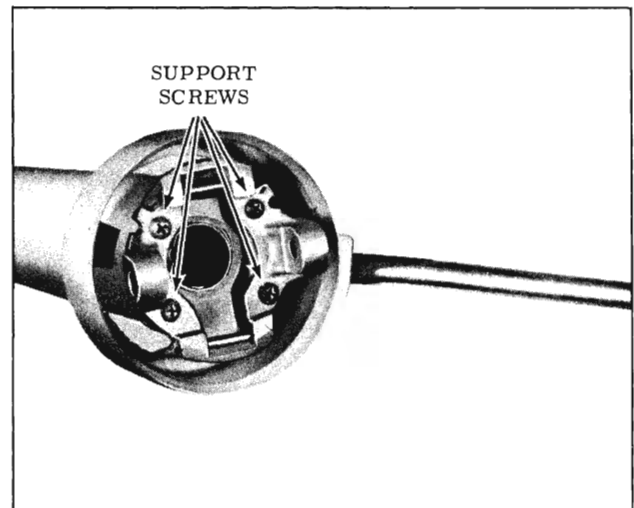

Fig. 4-95 Support Screw Location
1. Remove the four support screws, then lift the support from the mast jacket. (Fig. 4-95)